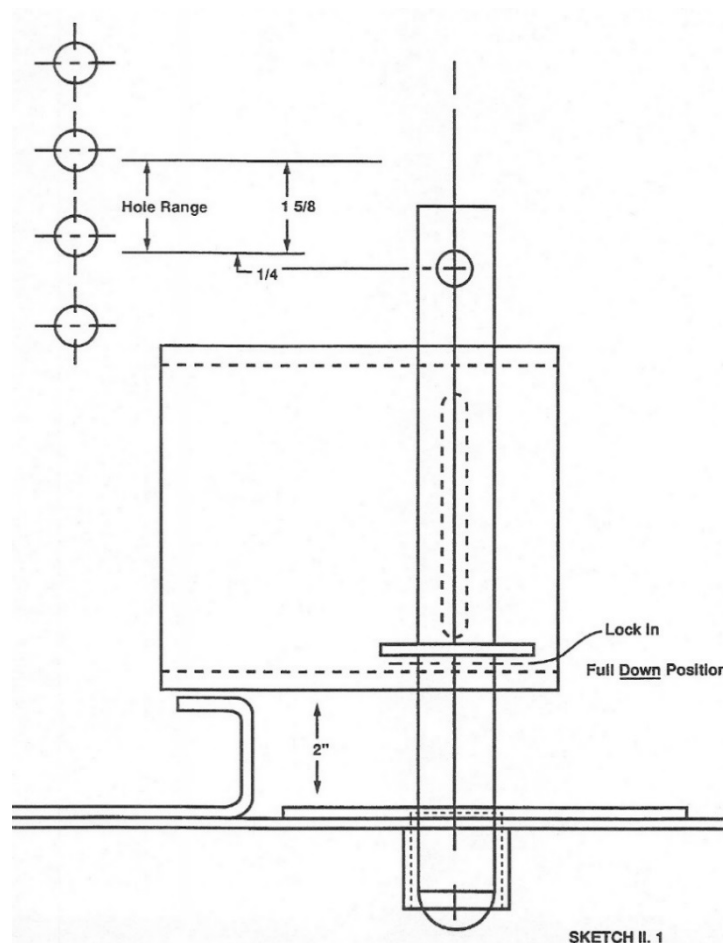

Figure 5
2. Apply the new upper lock arm (30-009-15/16) as shown in Figure 5. Select the pivot hole which is at least a ¼" above the center of the lock pin hole, but no more than 1⁵/₈" above the lock pin hole.